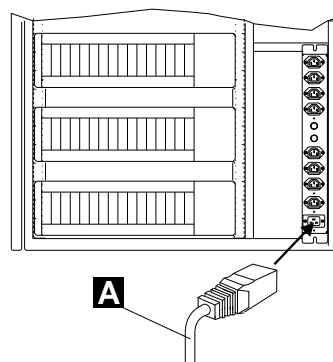

Figure 1-18. Power Cord for Power Strip
22. ____ If it is not already plugged, connect the main power cord **A** coming from the ac outlet distribution box to the customer receptacle (refer to Figure 1-18).